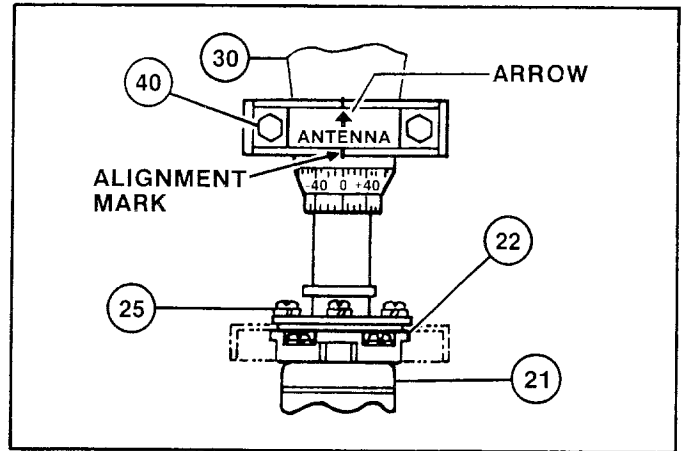

FIG. 2.0 - POLARIZATION OF THE FEED
- (1) Polarization of the feed (Ref. Fig. 2.0).
Polarization of feed is obtained by using a 10mm nut driver and loosening two M6 x 20mm clamp bolts (40) and turning feed. Align alignment mark on clamp with "0" (zero) mark on horn scale (Ref. Fig. 2.0). The polarization setting for the satellite is shown on Pages 11-14. Make sure clamp is installed with arrow pointed toward antenna as shown in Fig. 2.0. Keep cable groove on header in the down position when adjusting polarization.